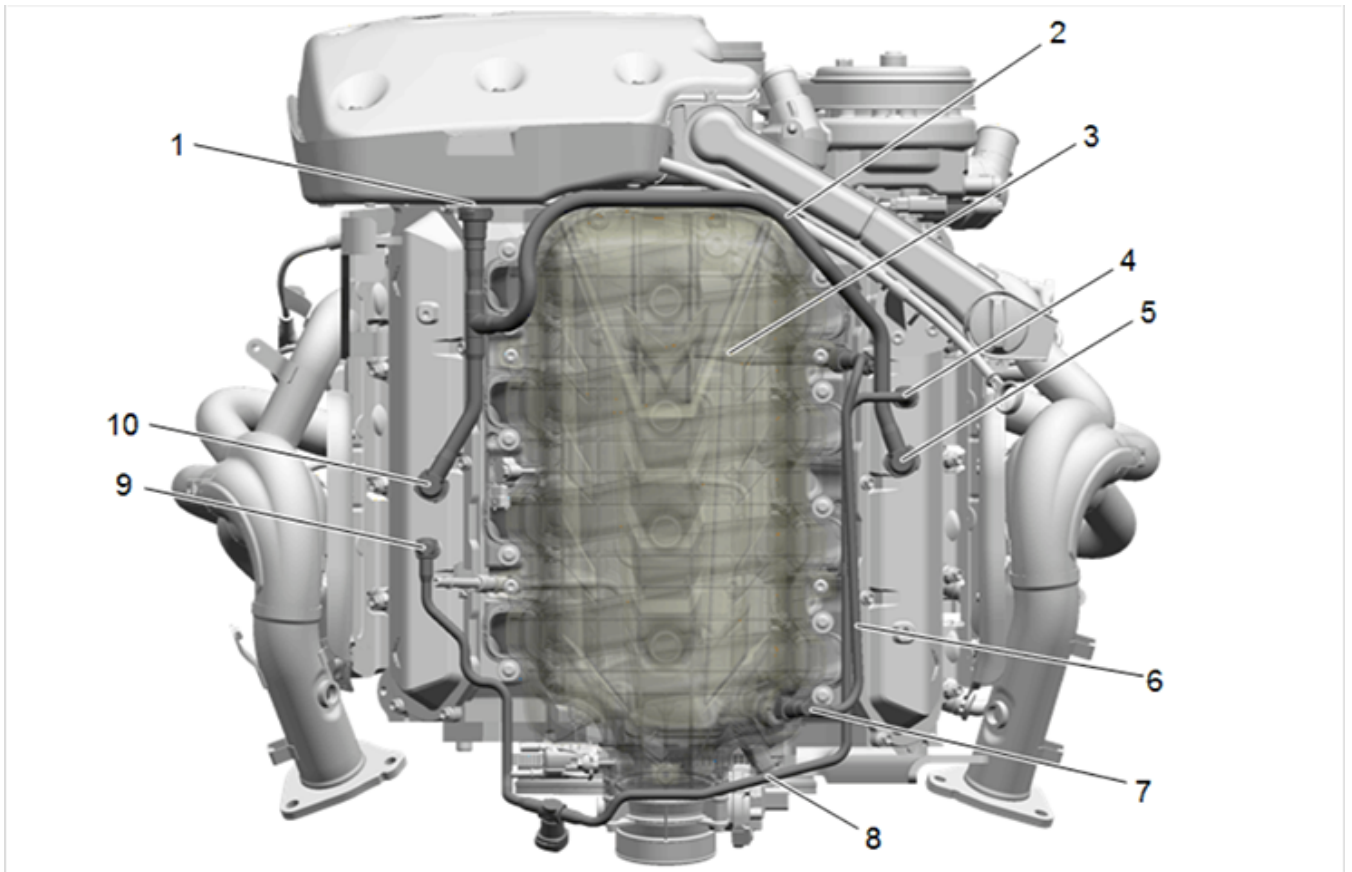

Fig. 3
In the LT2 engine, filtered fresh air is routed from upstream of the throttle plate through a formed nylon fresh air tube (8) to a PCV fitting (9) in the left-side rocker arm cover and a PCV fitting (4) in the right-side rocker arm cover. The design of the rocker arm covers shields rocker arm oil spray, reducing the potential for oil being drawn back into the fresh air PCV tube during any backflow of the ventilation system. Separated foul vapor from the engine oil tank (1) is routed to a PCV fitting (10) in the left-side rocker arm cover and a PCV fitting (5) in the right-side rocker arm cover via a formed nylon recirculation tube (2). Foul crankcase vapor is routed through a formed nylon foul air tube (6) from a PCV connection (3) on the engine oil separator in the engine valley to right side rear of the intake manifold (7). (Fig. 3)